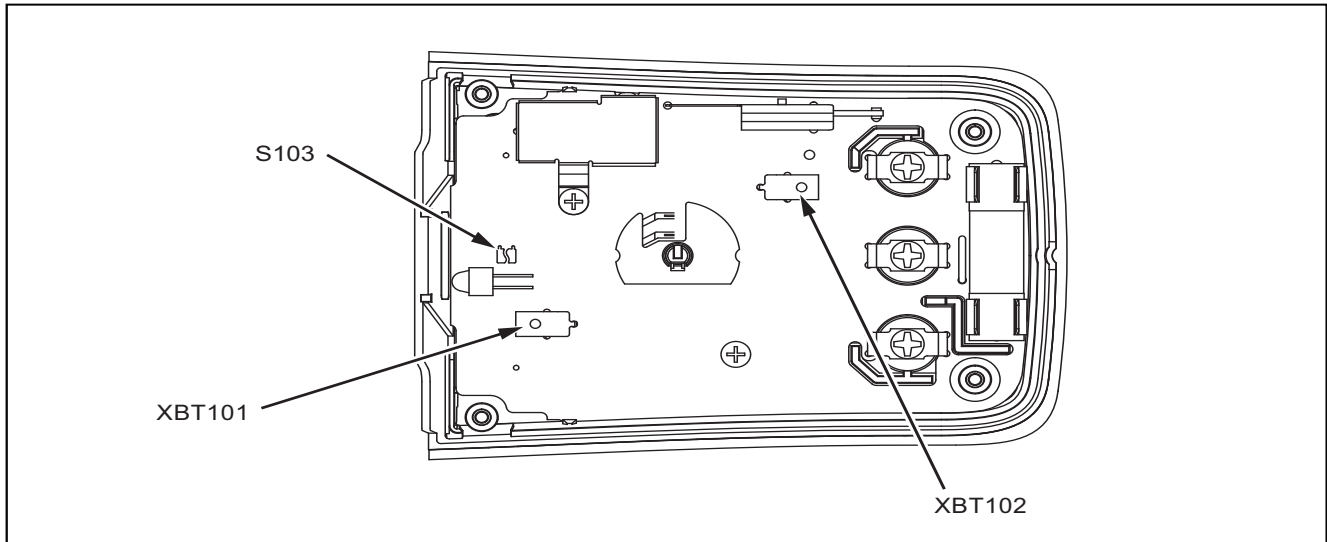

Figure 7. Calibration Password Reset
2. Apply 4.5 V across the battery contacts (XBT1) + and (XBT2) – on the back of the PCA. See Figure 7.
4. Short across the S103 CAL keypad on the back of the PCA. See Figure 7. The Meter should beep. The default password is now restored.